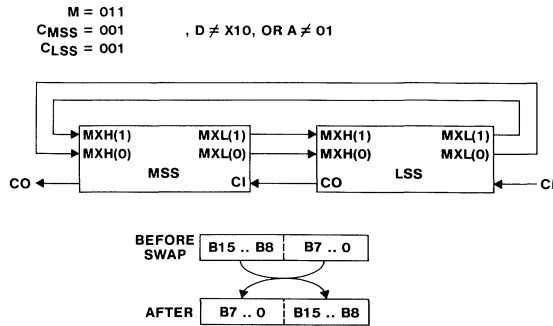

Fig. 22 - Example of ringshift right two bits to implement byte swapping.
One configuration of a 16-bit machine which allows rotate left or right is shown in Fig. 22. By selecting the M and C fields as shown, a byte swap can be implemented in four microcycles, since M = 011 yields a shift right of two bits. The data-sheet tables show that for M = 011, and C = 001, the LSB, ALC(0), is output on the MXL(0) pin. Since the MXH(0) pin is in the input mode, these two pins can be connected for right ringshift. Similarly, MXL(1) and MXH(1) can be connected, since MXH(1) is in the input mode, and the MXL(1) pin outputs bit ALC(1).